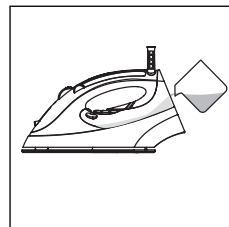

fig. 3
The measure provided corresponds to the maximum water content of the iron in the horizontal position (fig. 3).
- Pour one measure of water into the tank (fig. 3, see the "Easy Refill" section);